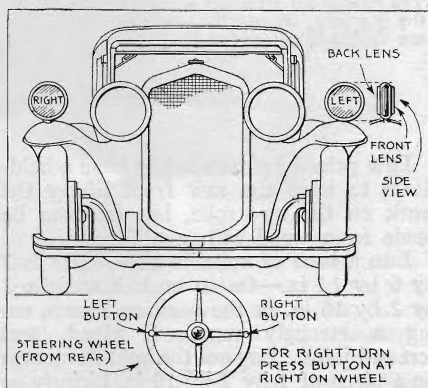

Fig. 4. Lights on each mudguard, wired to button on steering wheel, signal turns.
**A**N excellent way to work out an electrical method of signaling left and right turns is shown in Fig. 4. The idea is to mount two lights, one on each mudguard, in such position that they can be seen from both front and rear. Each light is wired to its own steering wheel button. Red arrows against a black background could be used instead of lettering.